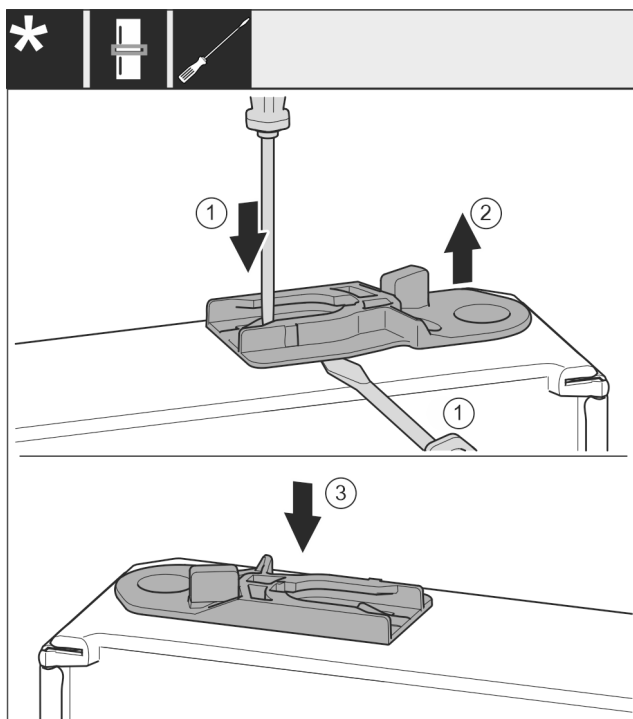

Fig. 41
- Appliances with closing damper: Pull out the guide bush: Press the tab Fig. 41 (1) with a flat-blade screwdriver and at the same time move the flat-blade screwdriver under the guide bush Fig. 41 (2).
- Appliances with closing damper: Insert the guide bush Fig. 41 (3) supplied on the other side of the housing.